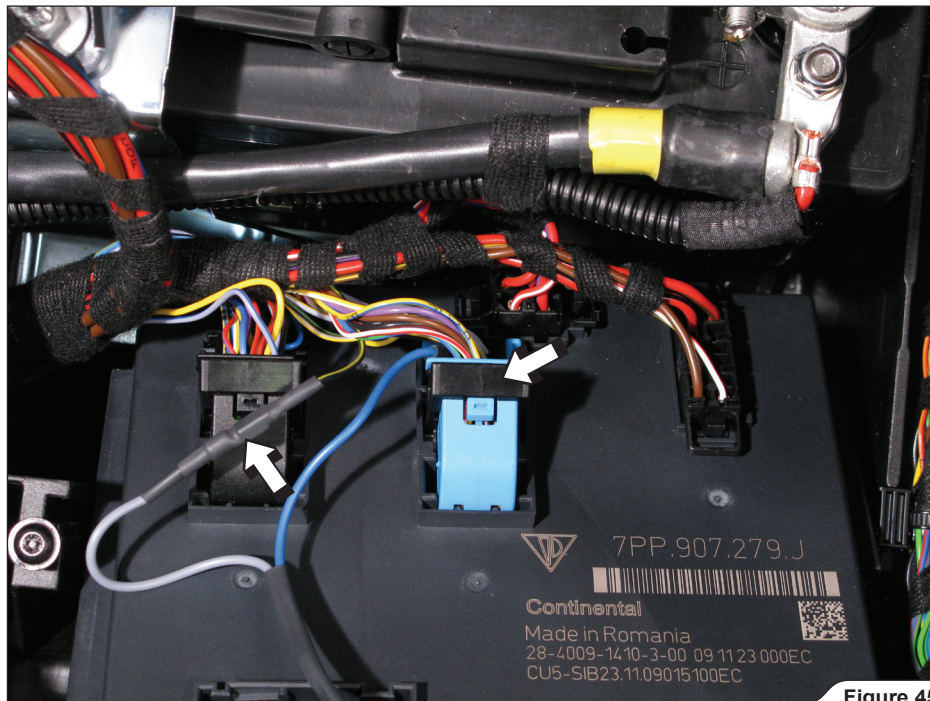

Figure 45
9. Connect the original blue connector back into the ECU and insulate the wire connection (grey wire - black with yellow stripe wire), using heat shrinkable insulation (included in Akrapović kit) (**Figure 45**).